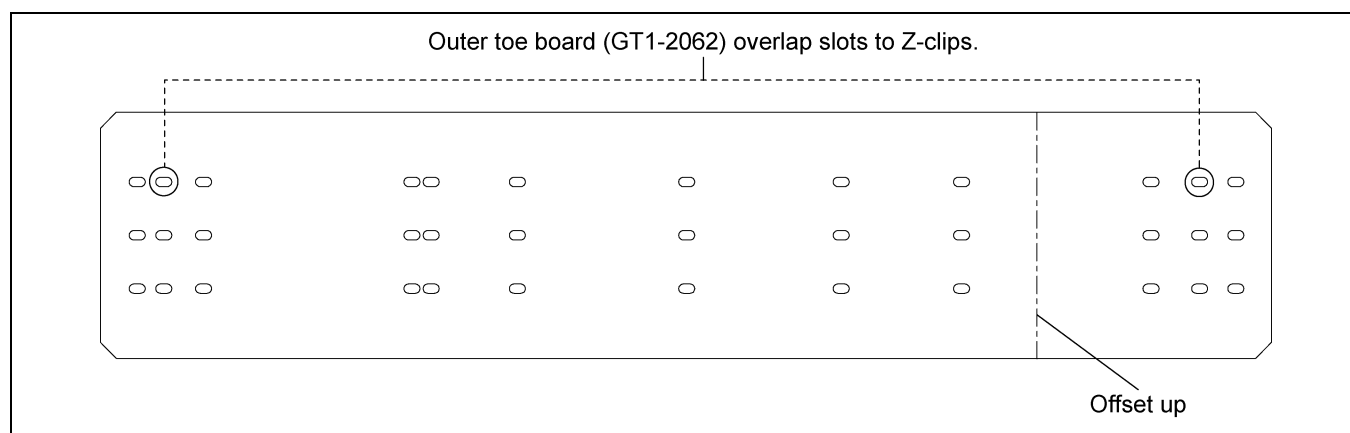

Figure 5E 18' Outer Toe Board (GT1-2062)
2. Outer toe board is arranged with overlap slots on each side. Install 18' outer toe boards (GT1-2062) to corresponding slots as shown in Figure 5E.